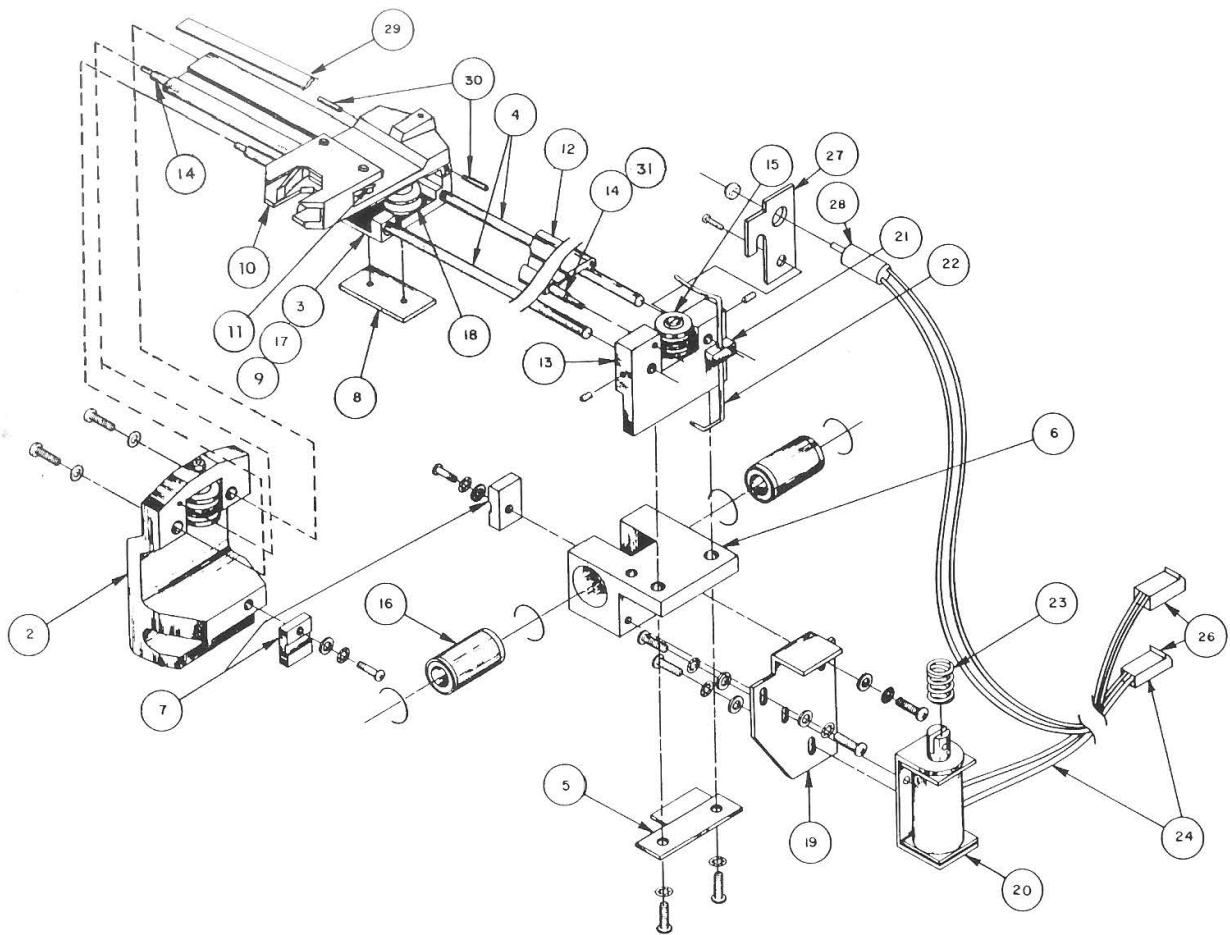

FIGURE 4-13
D. BEAM ASSEMBLY DMP-802 (See Figure 4-13)